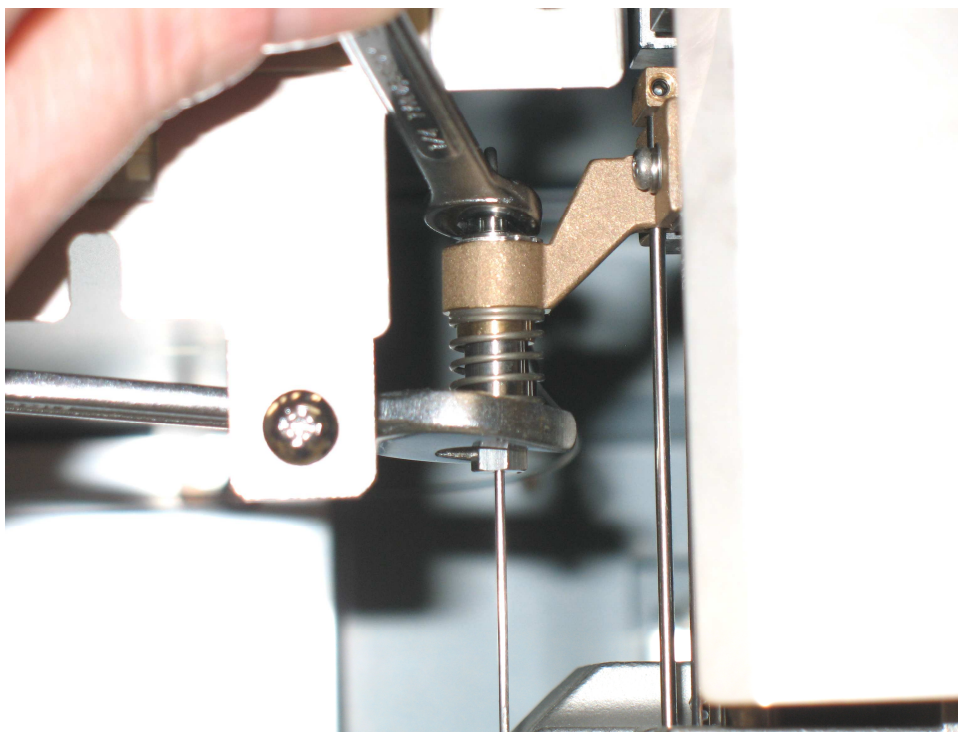

Figure 5: Loosening the Needle top fitting
6. Loosen the needle top fitting (*Fig. 5*) whilst using a 12mm spanner to hold the lower fitting. (Not the needle itself). Once the top fitting is loose, remove the stainless steel plumbing from the assembly.